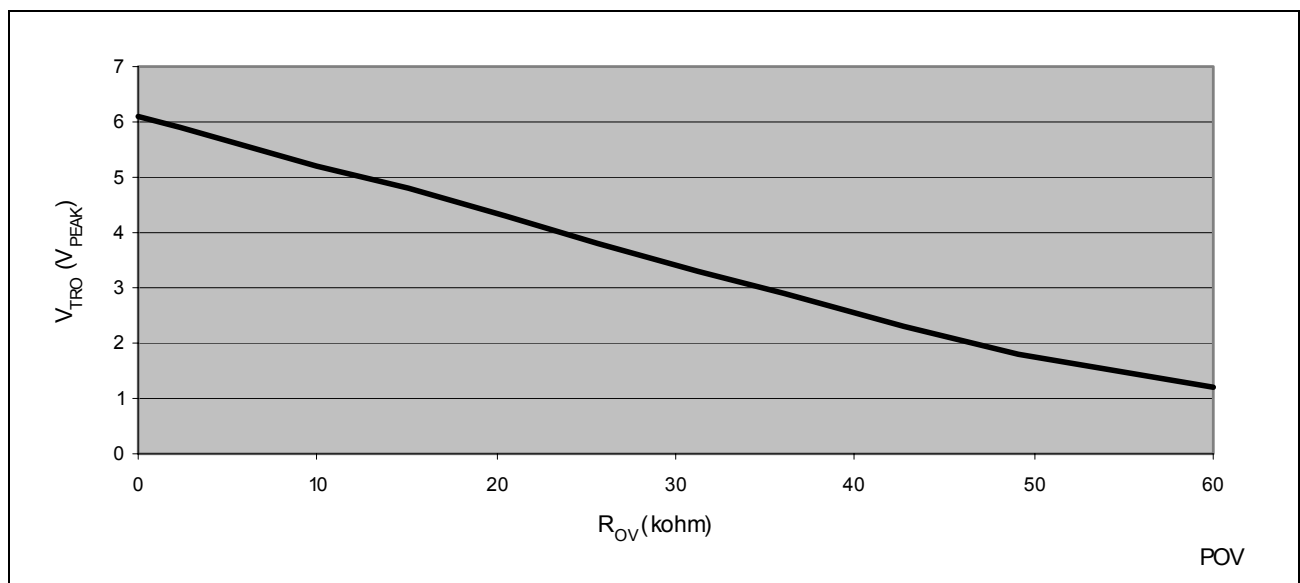

Figure 13 Programmable Overhead Voltage (POV). $R_L = 600 \Omega$ or Infinite
With the POV function the overhead voltage can be increased. If the POV pin is left open the overhead voltage is internally set to $1.1 V_{\text{Peak}}$. The overhead voltage is equal in on-hook and off-hook. If a resistor R_{OV} is connected between the POV pin and AGND, the overhead voltage can be set to higher values, typical values can be seen in Figure 13. The R_{OV} and corresponding V_{TRO} (signal headroom) are typical values for THD < 1% and the signal frequency 1000 Hz.
2. In Figure 13 the corresponding R_{OV} for the decided V_{TRO} can be found.